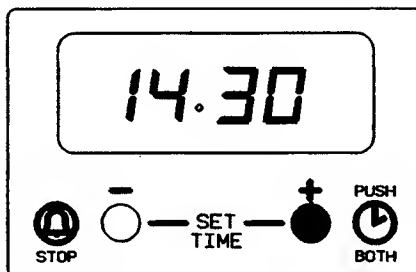

Fig. 6.3
Within 5 seconds, press and hold either button (1) to decrease or button (2) to increase the time until the correct time of day on the 24 hour clock is reached, e.g. 14:30. The cooking symbol (🍳) will go out. See Fig. 6.3.